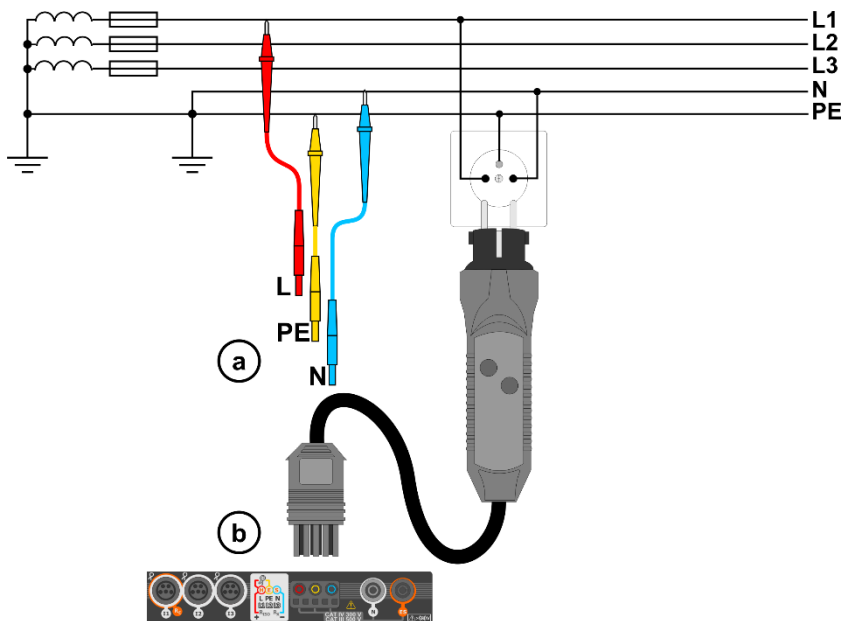
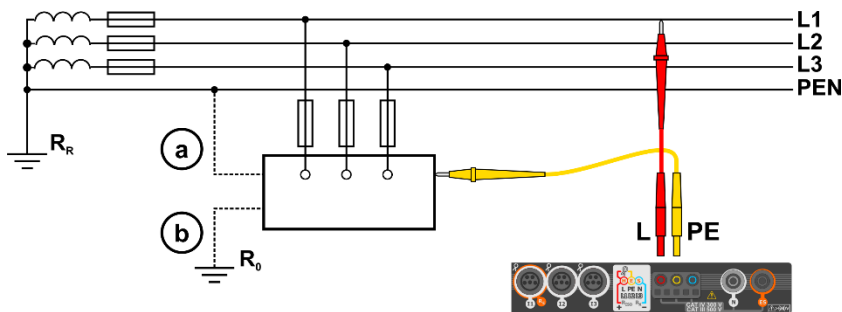

Fig. 3.1 Measurement in L-PE circuit
Fig. 3.2 Checking effectiveness of protection against electric shock of the meter housing in case of: **a**) TN network or **b**) TT network
- ① Connect test leads according to Fig. 3.1 or Fig. 3.2.